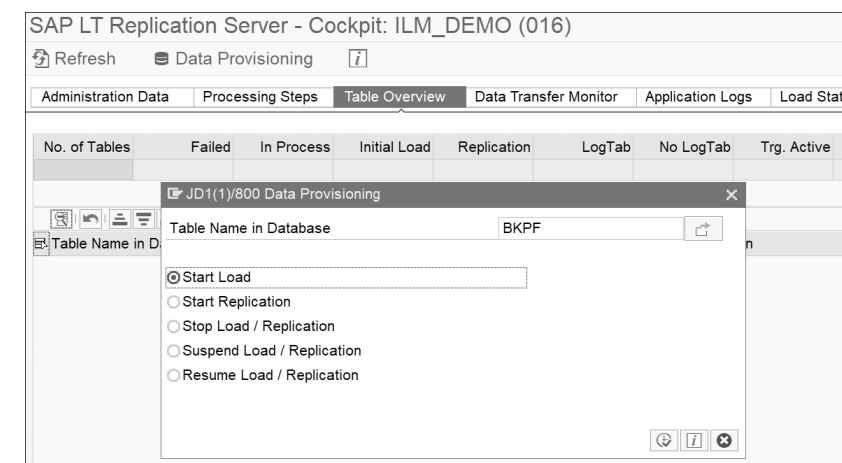

Figure 8.13 Data Provisioning: Start Loading Process
4. Enter the name of the table in the **Table Name in Database** field (see Figure 8.13), select the **Start Load** radio button, and then click **Execute** (F8).
You can also enter several table names in the screen displayed in Figure 8.13. However, we recommend that you don't enter more than 5,000 tables at once.